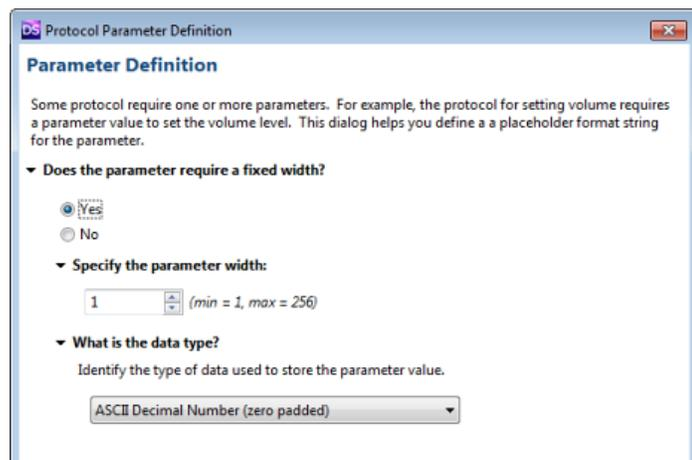

FIG. 65 Protocol Parameter Definition dialog
2. Click the **Param** *Input Mode Option* button to open the *Protocol Parameter Definition* dialog (FIG. 65). This input mode option is only displayed for command protocols that require one or more parameters.